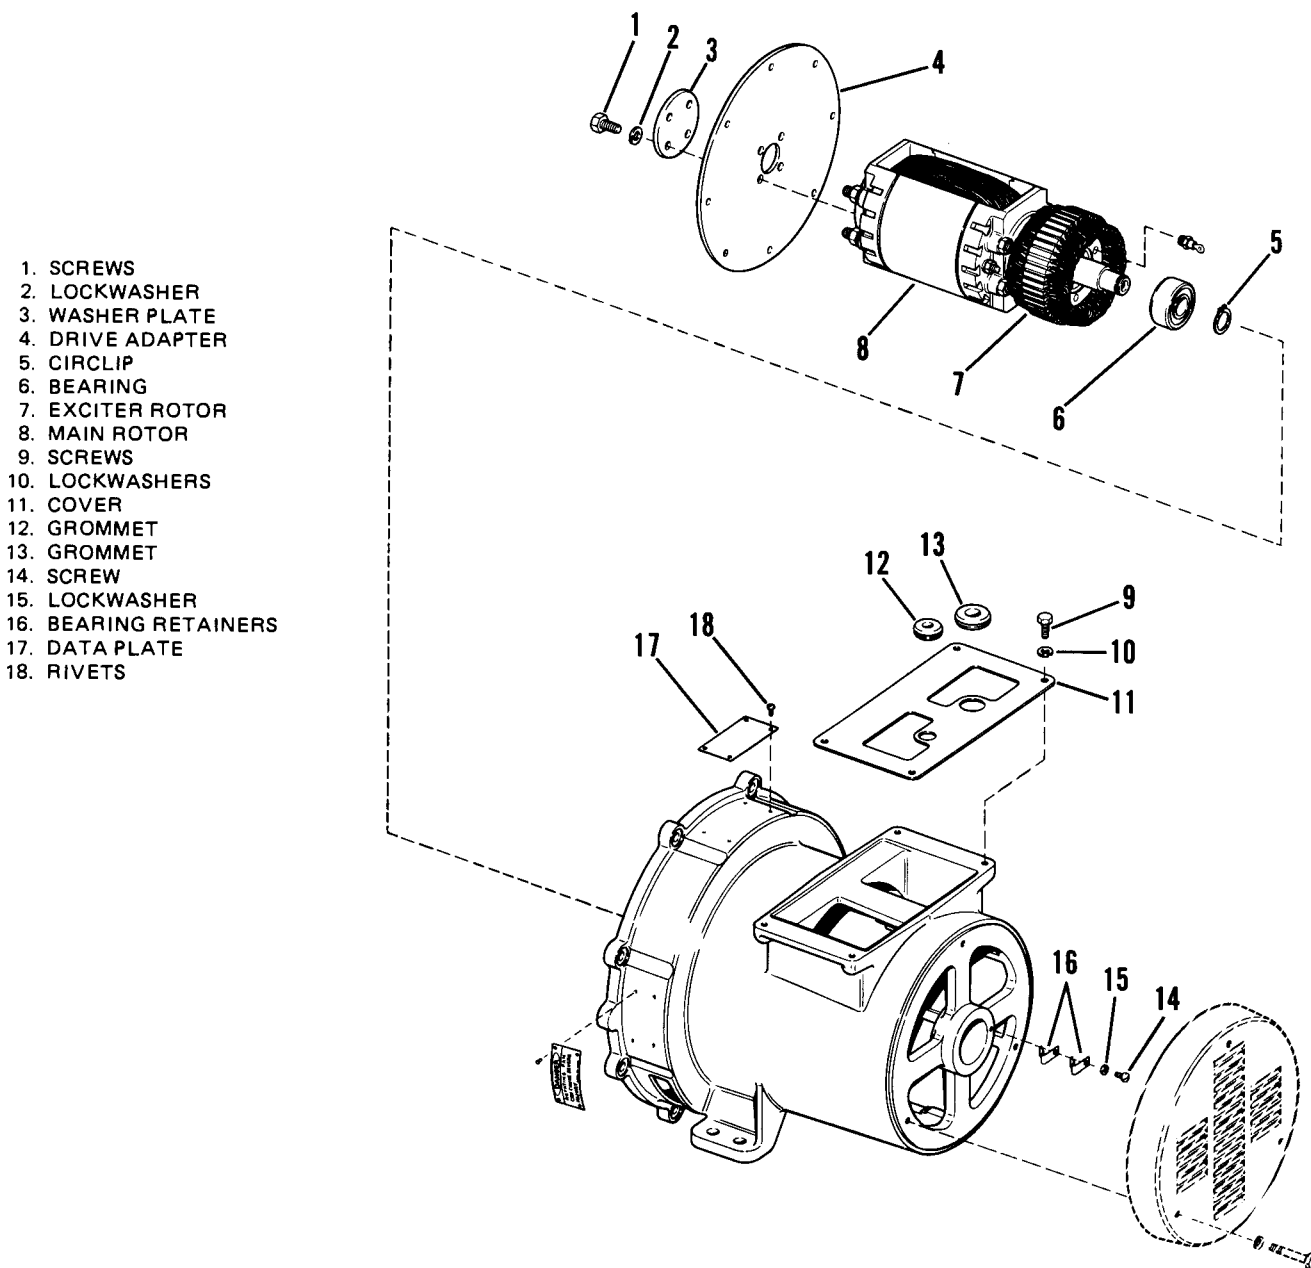

Figure 5-3. Generator Disassembly and Assembly.
Figure 5-3 illustrates the MEP-016B and MEP-026B (60Hz and 28VDC) sets. Model MEP-021B (400 Hz) set is similar, but has a slightly different rotor. Procedures which follow can be used for all three models.
- (1) Remove four screws (1, Figure 5-3), lockwashers (2), washer plate (3), and drive adapter (4) from rotor assembly.
- (2) Remove circlip (5) and use a puller to remove bearing (6).
- (3) Exciter rotor (7) is permanently attached to main rotor (8) shaft and cannot be removed without damaging rotor.
- (4) Remove four screws (9), lockwashers (10) and cover (11). Remove small grommet (12) and large grommet (13).
- (5) Remove screw (14), lockwasher (15), and two bearing retainers (16).
- (6) Data plate (17) is not removed unless it is being replaced. Data plate is retained by rivets (18).
- (1) If removed, install data plate (17, Figure 5-3) with rivets (18).
- (2) Secure bearing retainers (16) to housing with screw (14) and lockwasher (15).
- (3) Place large grommet (13) and small grommet (12) into holes in cover (11).
- (4) Place two exciter stator leads through small grommet and six main stator leads (MEP-016B and MEP-021B) or three main stator leads (MEP-026B) through large grommet.
- (5) Secure cover (11) with four screws (9) and lockwashers (10).
- (6) Press bearing (6) onto rotor shaft and install circlip (5).
- (7) Install drive adapter (4) and secure with washer plate (3), lockwashers (2), and screws (1). Make sure that radius on washer plate (3) faces drive adapter (4). Tighten screws (1) to 25 to 29 ft lbs (34 to 39 N.m).